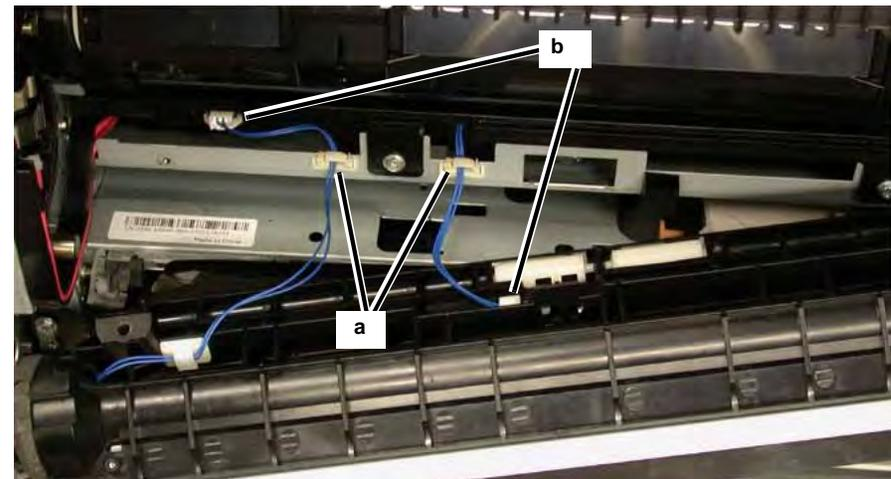

Figure 7 PJ's
9. Perform the following (Figure 7).
- b. Disconnect the Registration Transport PJ's (2).